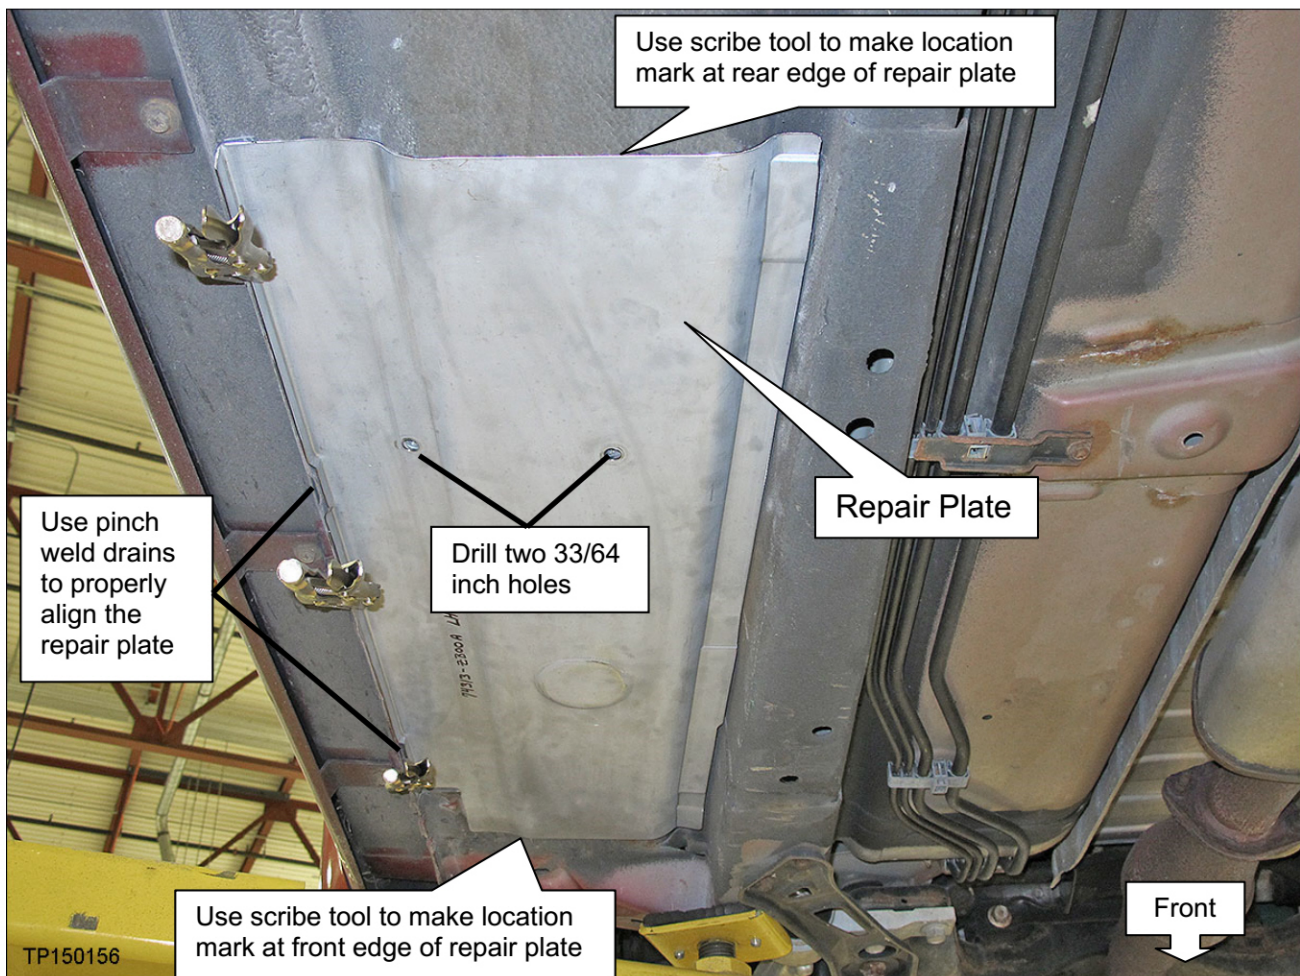

Figure 2
3. Place the Repair Plate against the floor pan and align the contour of the outer edge of the Repair Plate with the pinch weld drains (see Figure 2).
4. Use locking pliers on the pinch welds to hold the Repair Plate in place (see Figure 2).
5. Use a scribe tool to make "location marks" at the front and rear edges of the Repair Plate (see Figure 2).
6. Drill two holes in the floor pan (see Figure 2).